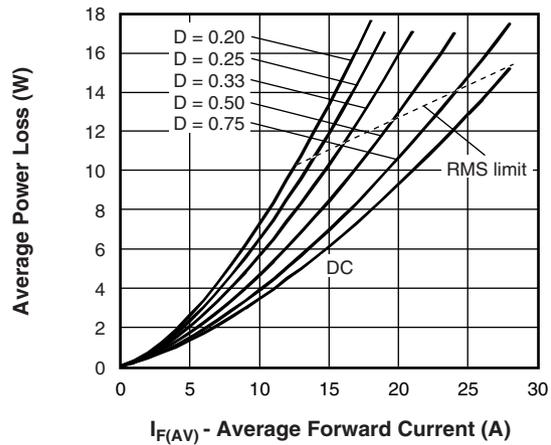

Fig. 6 - Forward Power Loss Characteristics (Per Leg)
- (1) Formula used: $T_C = T_J - (P_d + P_{dREV}) \times R_{thJC}$;
- P_d = forward power loss = $I_{F(AV)} \times V_{FM}$ at $(I_{F(AV)}/D)$ (see fig. 6);